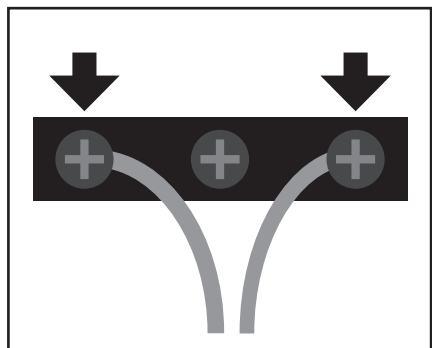

Fig. 22
3. Remove limit switch cover. Connect cable to outer 2 pins of limit switch (Fig. 22).